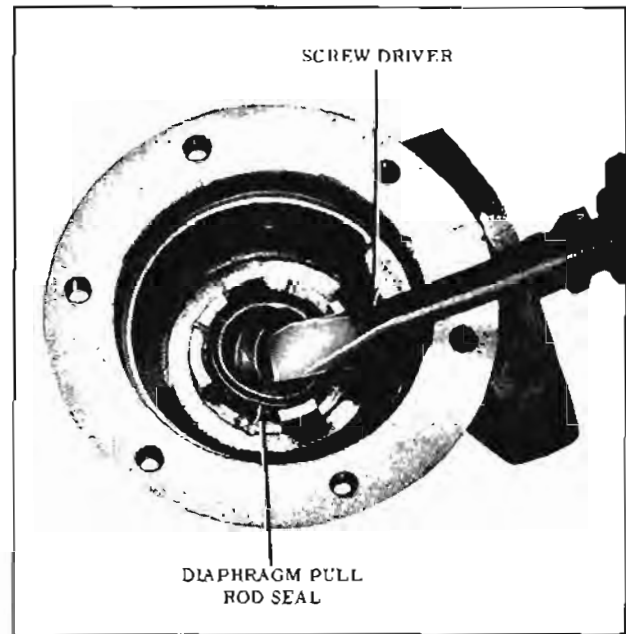

Fig. 8-182 Removing Seal
10. Remove staking burrs from diaphragm pull rod seal and remove seal by prying out with screwdriver. (Fig. 8-182)